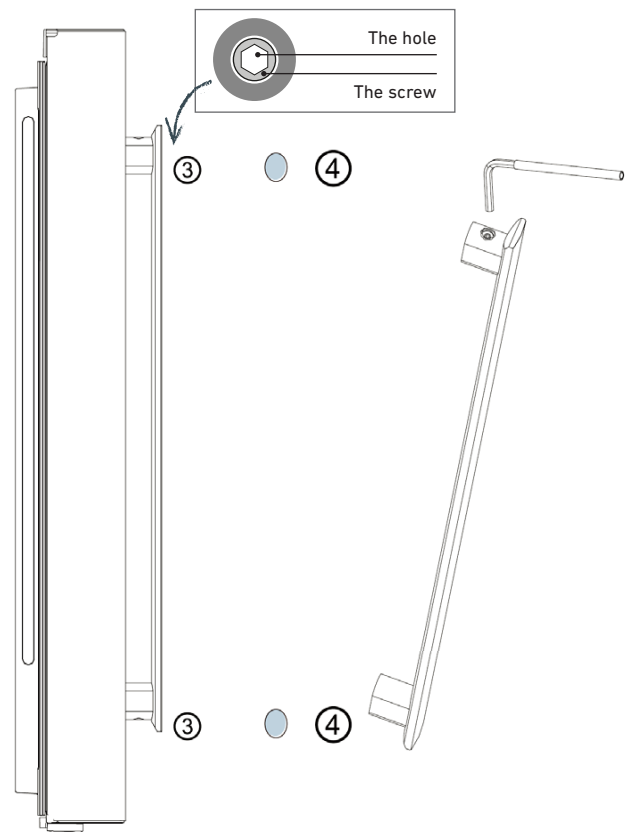

Figure 9
- 2) Put the handle on the door over the bolt ① and make sure the handle is flush with the door's surface. See Figure 9.
- 3) Secure the handle by rotating the handle screw ③ on the end, then check that the handle is firmly mounted by jiggling it gently.
- 4) Install the cap ④ over the handle screw hole to complete the installation.